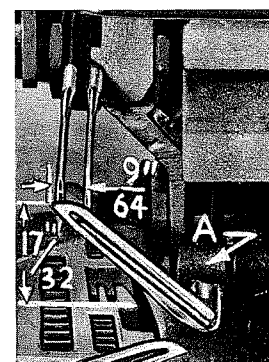

Fig. 10
Next, turn the handwheel until upper looper is at the left end of its travel. Check dimensions of upper looper point with respect to the right needle and throat plate (Fig. 10). If resetting is necessary, do it by moving the upper looper holder (A, Fig. 10). Figure 10 represents the correct dimensional setting.
If it becomes necessary to move looper thread pull-off (AF), be sure to take up all end play in needle drive shaft before tightening. If upper looper is located so that it is higher over throat plate than recommended in (Fig. 10), the purl will tend to form near the top edge. If upper looper is too low, the purl will form nearer the bottom edge.